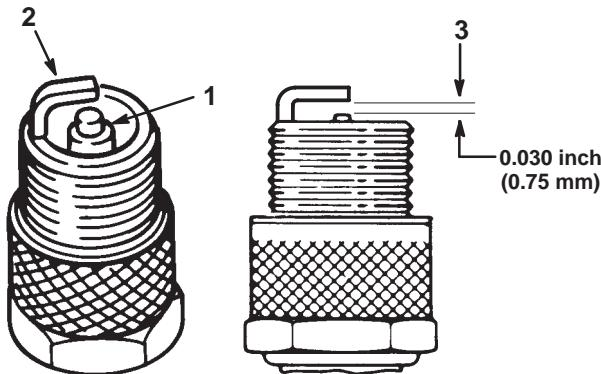

Figure 34
1. Look at the center of the spark plugs (Fig. 34). If you see light brown or gray on the insulator, the engine is operating properly. A black coating on the insulator usually means that the air cleaner is dirty.
2. Check the gap between the center and side electrodes (Fig. 34). Bend the side electrode (Fig. 34) if the gap is not correct.